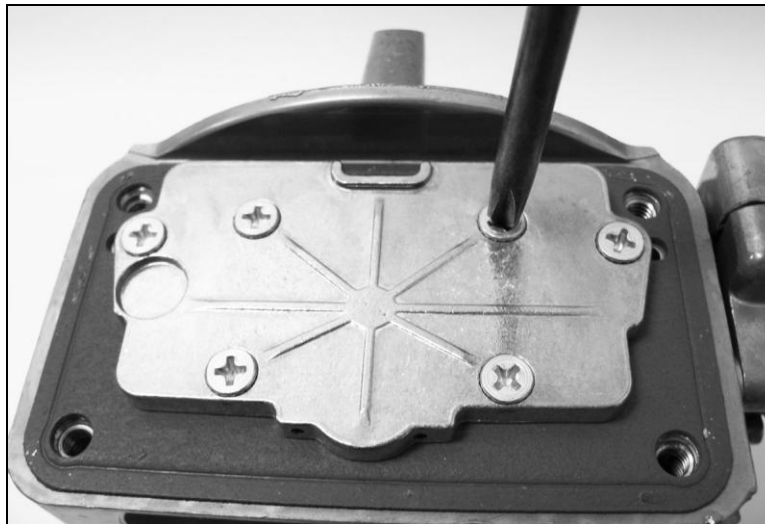

Figure 7
9. The Demon Carburetion™ 4160 Road Demon Jr. uses 6 Phillips head screws (Fig 7). The secondary fuel bowl may be removed in the same manner as the primary. However, in Holley® Model 4160™, the secondary metering plate is held in place by six clutch-head screws and a special driver is necessary to remove them.